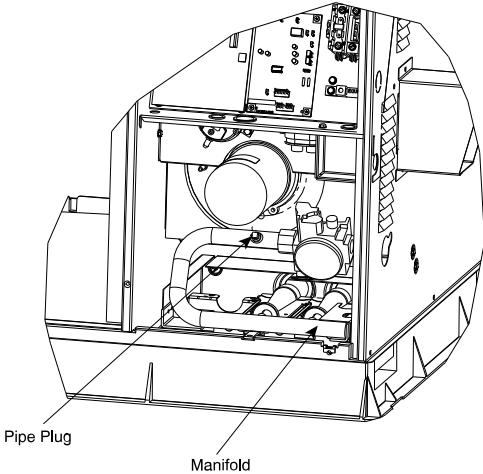

Fig. 14 – Single-Stage Burner Assembly
28. Remove the 1/8 in. pipe plug on the gas manifold and connect a pressure manometer (see Fig. 14).
- 32. Turn off unit, remove pressure manometer and replace the 1/8 in. pipe fitting on the gas manifold (see Fig. 14).